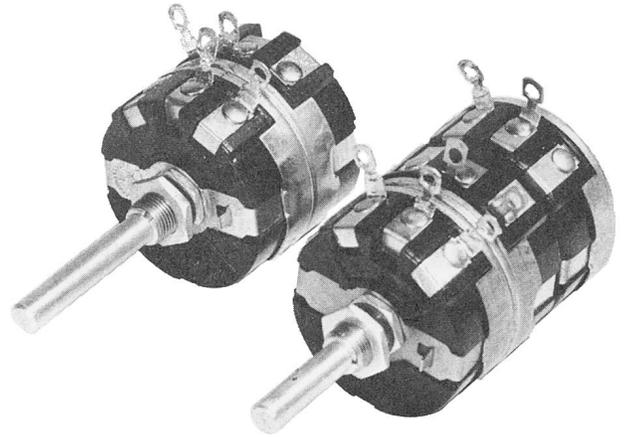

Figure 72 - Pads-T and L Type
4.20 Pads T and L Type - The T600-type has three variable elements for 600 ohm constant impedance. Its three elements measure 2-9/32" in length and 1-23/32" in diameter. It has a mounting stud 3/8" long by 3/8-32, and a control shaft 1-1/2" long by 1/4". The L pads have two variable elements and are available in 4-, 8-, or 15-ohm impedances. Dimensions are the same except the two elements measure 1-19/32" in length. (Figure 72)